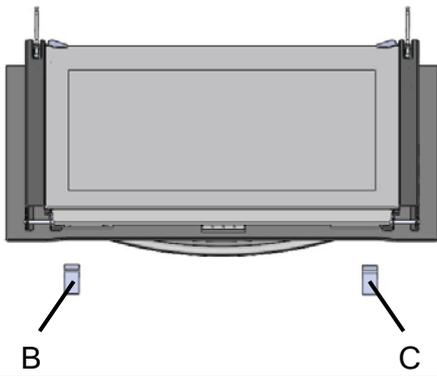

Fig.4:
- Remove the seal D by unscrew the no.2 bolts(fig.4)